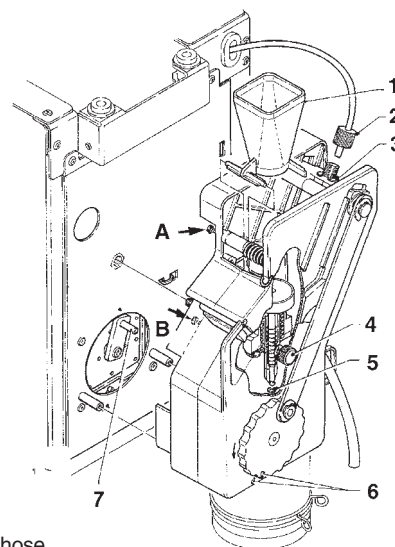

Fig. 13
- remove the boiler teflon hose connection from the upper piston, paying attention not to lose the seal (see Fig. 13);
- Loosen screws A and B enough to release the funnel (see Fig. 13);